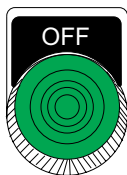

Figure 25. Main Circuit Breaker OFF Lamp
2. Verify that the **main** circuit breaker “OFF” lamp (Figure 25) is lit (ON).